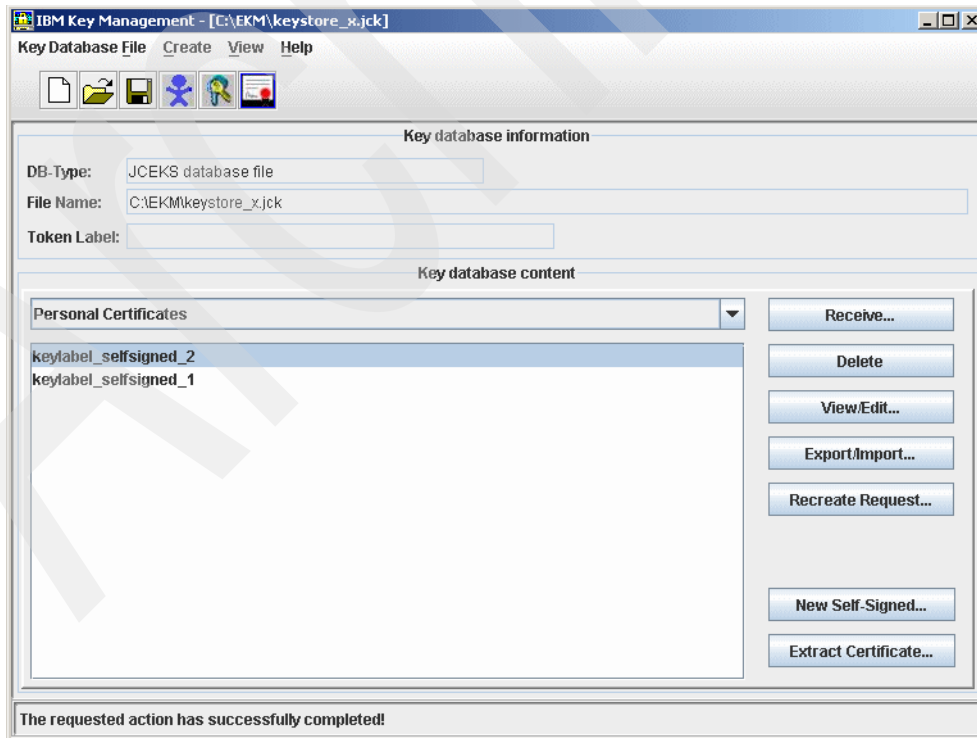

Figure 6-20 Self-signed key created
- The key labels for the keys you create are displayed in the IBM Key Management window. In this example, we created two keys, as shown in Figure 6-20.